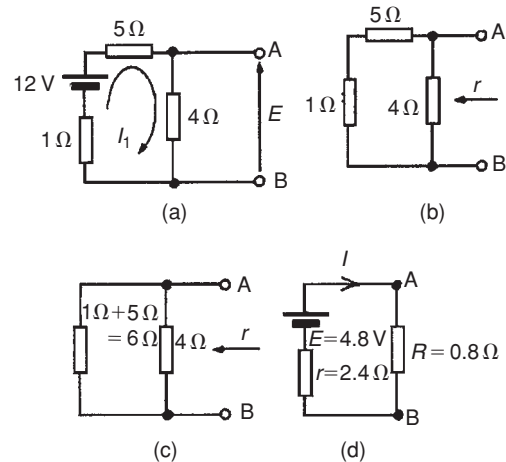

Figure 13.40
- (i) The 0.8Ω resistor is removed from the circuit as shown in Fig. 13.40(a).
P.d. across 4Ω resistor = $4I_1 = (4)(1.2) = 4.8\text{ V}$. Hence p.d. across AB, i.e. the open-circuit voltage across AB, $E = 4.8\text{ V}$
- (iii) Removing the source of e.m.f. gives the circuit shown in Fig. 13.40(b). The equivalent circuit of Fig. 13.40(b) is shown in Fig. 13.40(c), from which, resistance
- (iv) The equivalent Thévenin's circuit is shown in Fig. 13.40(d), from which, current